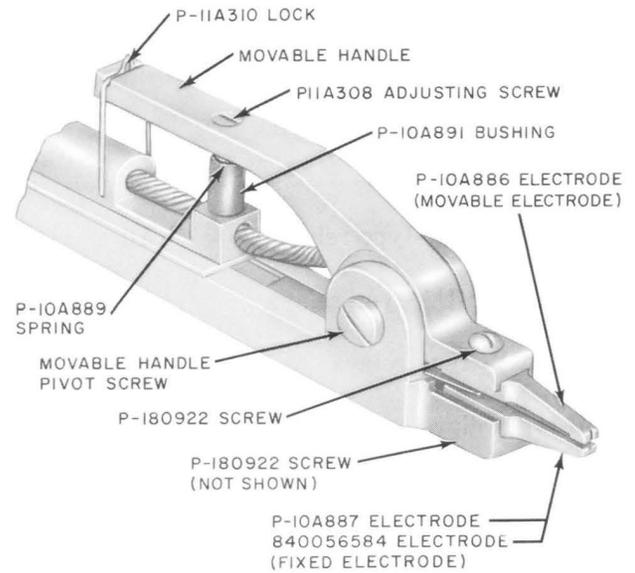
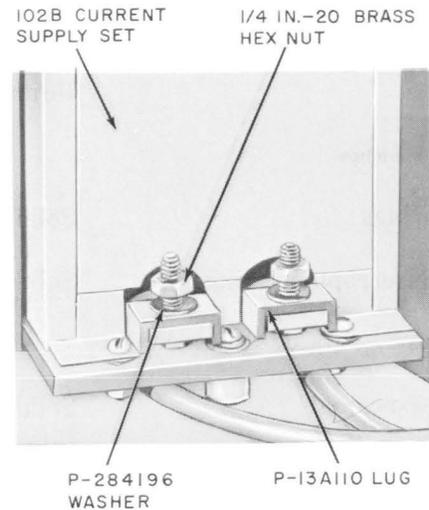

Fig. 7—577D Welding Pliers
Fig. 8—102B Current Supply Set
5.01 The figures in this part show the parts of the welding pliers and current-supply set which may be replaced in the field as follows: 577A and 577B welding pliers (Fig. 5); 577C welding pliers (Fig. 6); 577D welding pliers (Fig. 7); and 102B current-supply sets (Fig. 8). These parts are shown in proper relation to associated parts. The piece-part numbers and names of replaceable parts as listed by the Western Electric Company Merchandising Department are given on the figures. No attempt should be made to replace parts not designated.